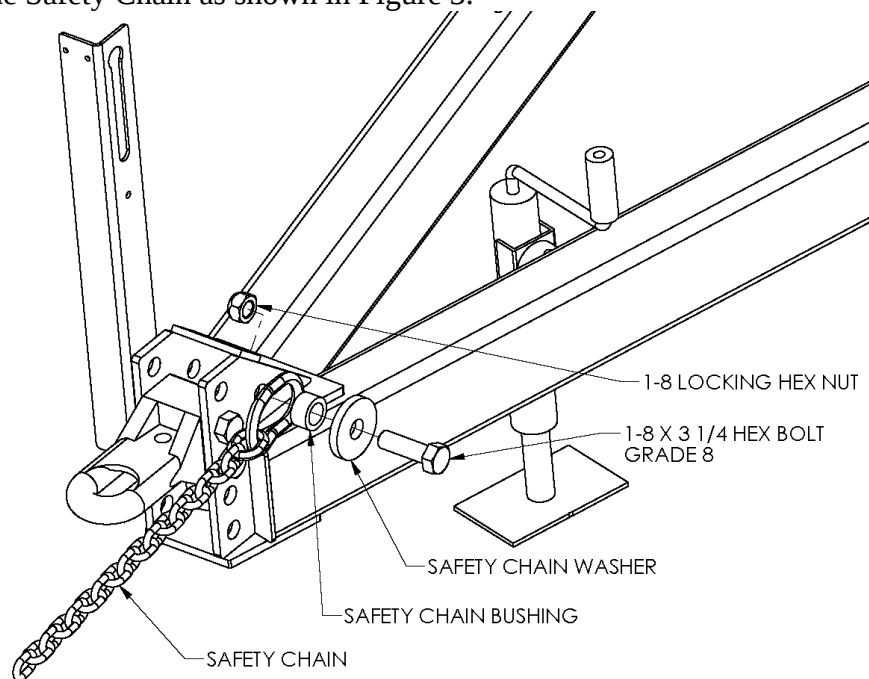

Figure 3
1. Attach the Safety Chain as shown in Figure 3.